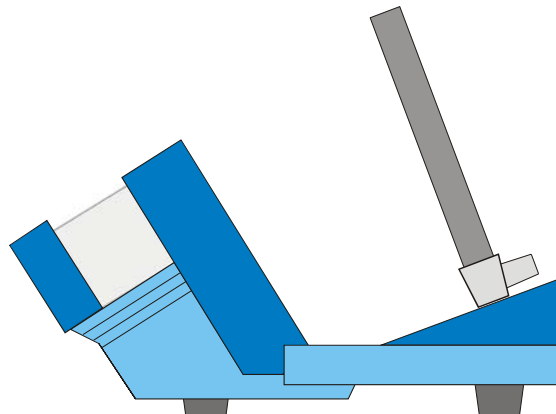

Fig. 2 Setting up a coil for an axial field
- Slot the base of the coil into the groove from the front making sure that the connectors point forwards (refer to Fig. 2).